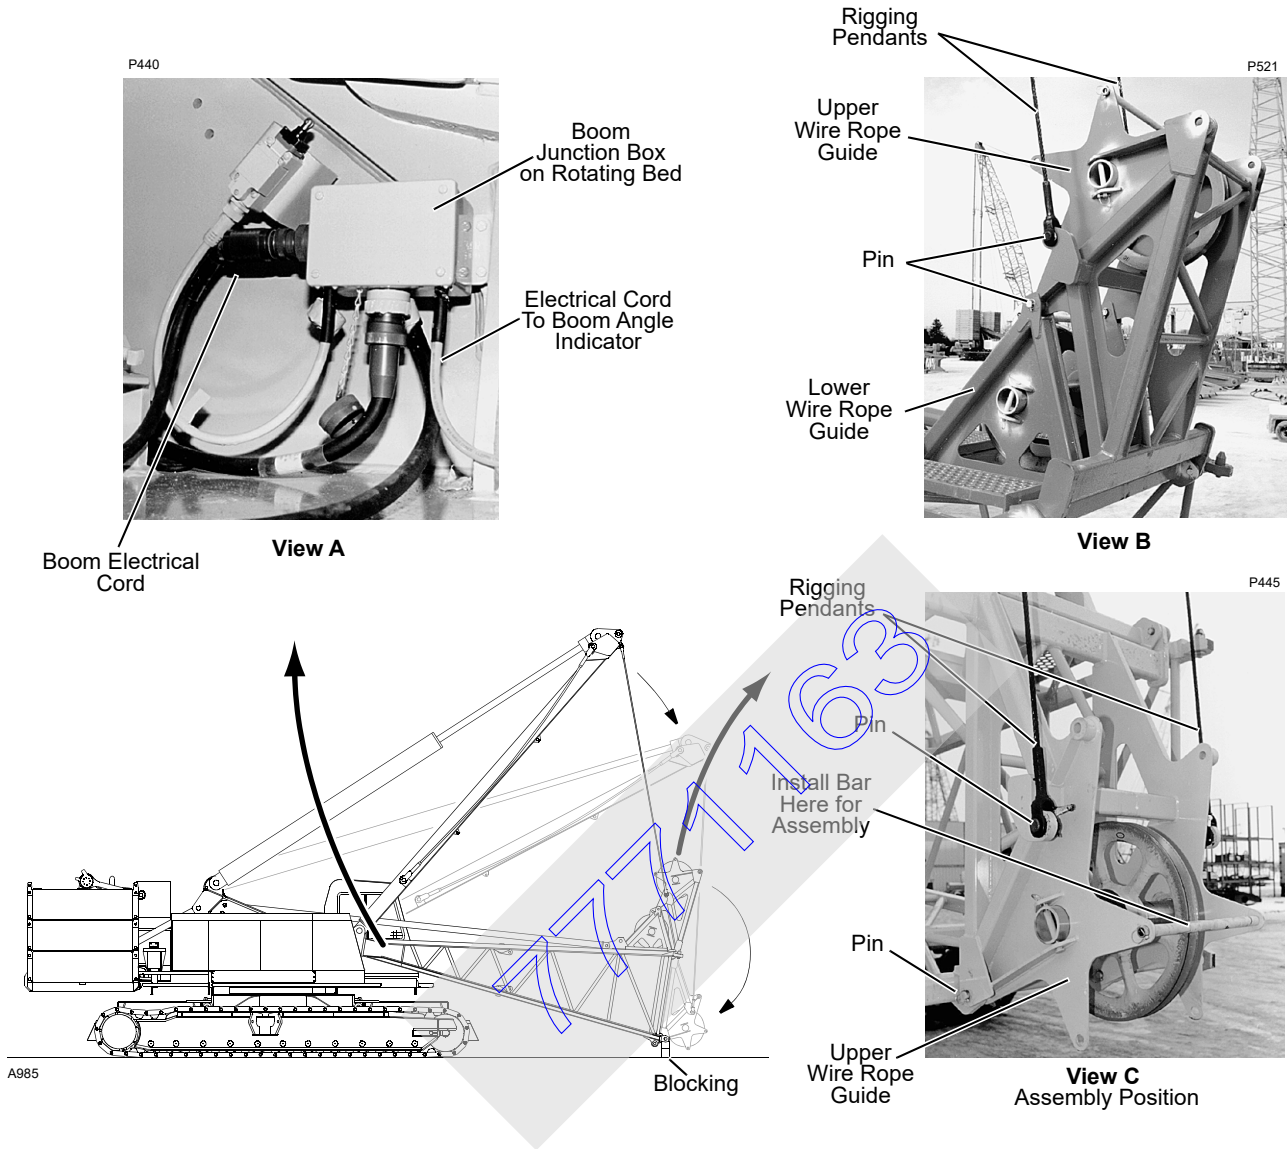

FIGURE 4-14
5. Disconnect boom electrical cord from cable reel on boom butt and connect cord to junction box on rotating bed (Figure 4-14, View A).
10. Connect rigging pendants to upper wire rope guide (Figure 4-14, View B).
16. Lower butt onto blocking approximately 15 in. (381 mm) high (Figure 4-14).
17. Unpin upper wire rope guide from lower wire rope guide (Figure 4-14, View B). Use same pins in step 19.
19. Pin upper wire rope guide to boom butt (Figure 4-14, View C).
NOTE: Install rope guide bar in proper holes as shown in Figure 4-14, View C.